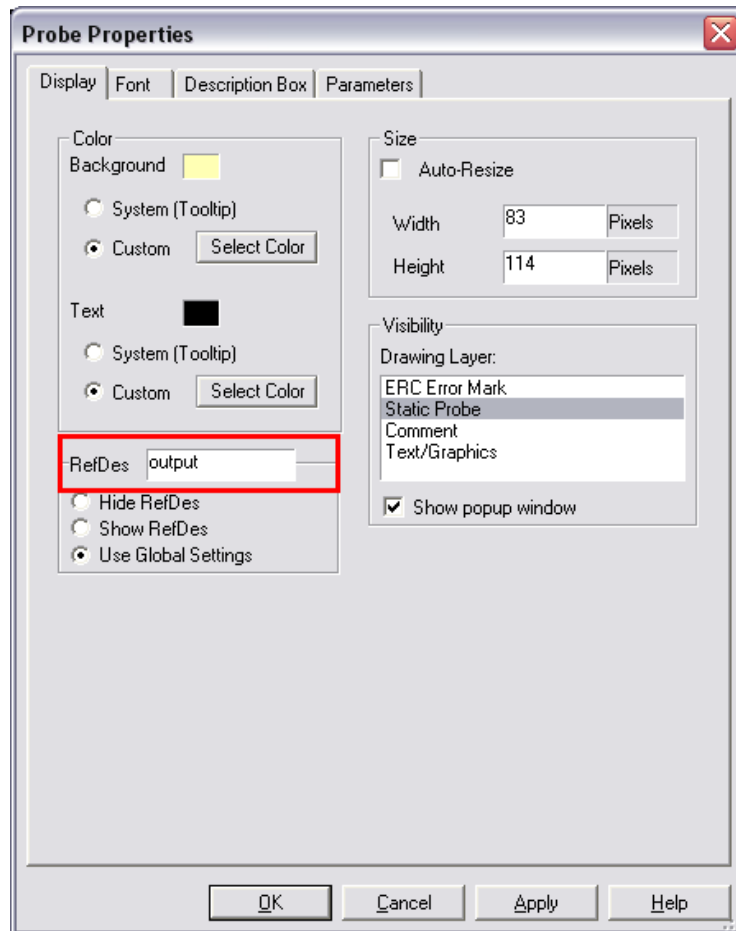

Figure E2-19. Measurement Probe Properties
6. In the **Probe Properties** dialog box set the **RefDes** to **output** (as seen in Figure E2-19).